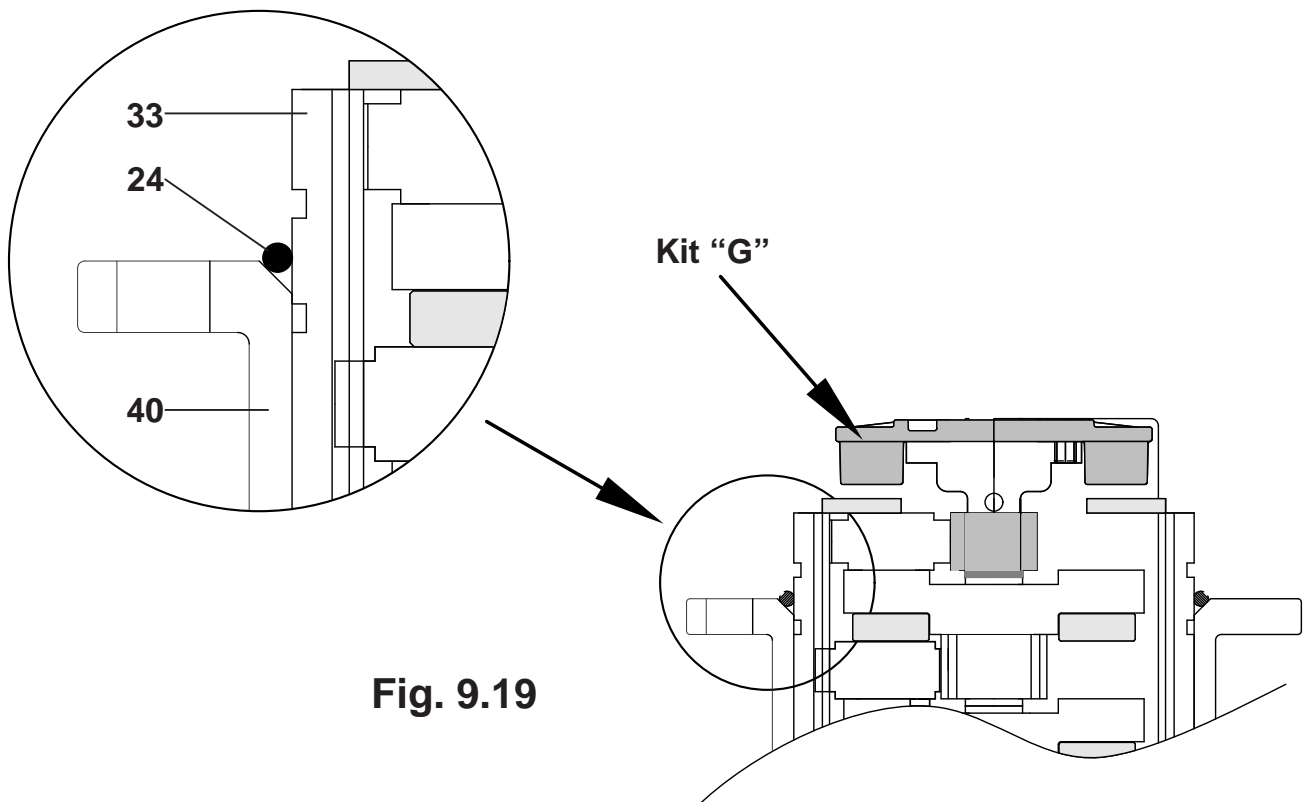

Fig. 9.19
9.4.19) Fit the O-ring pos.24 and the complete turning unit (kit "G"), as in fig. 9.19).